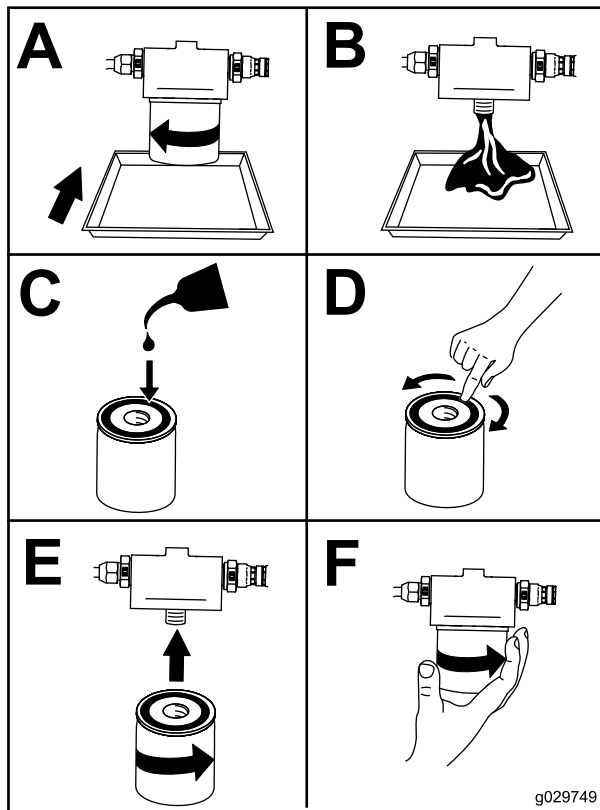

Figure 50
7. Change the oil filter (Figure 50).